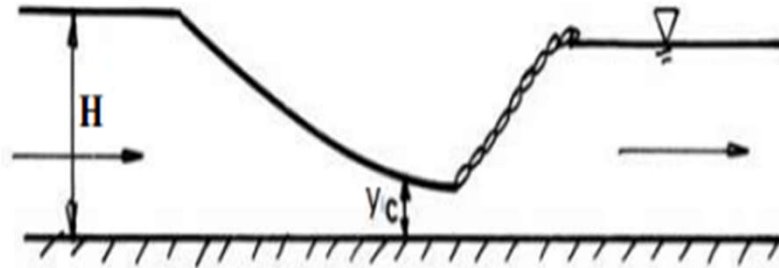

Fig. 1.2 Free flow condition
- 1) Measure the depth of flow sufficiently at upstream of the flume shown in Fig. 1.2 and determine the theoretical discharge.